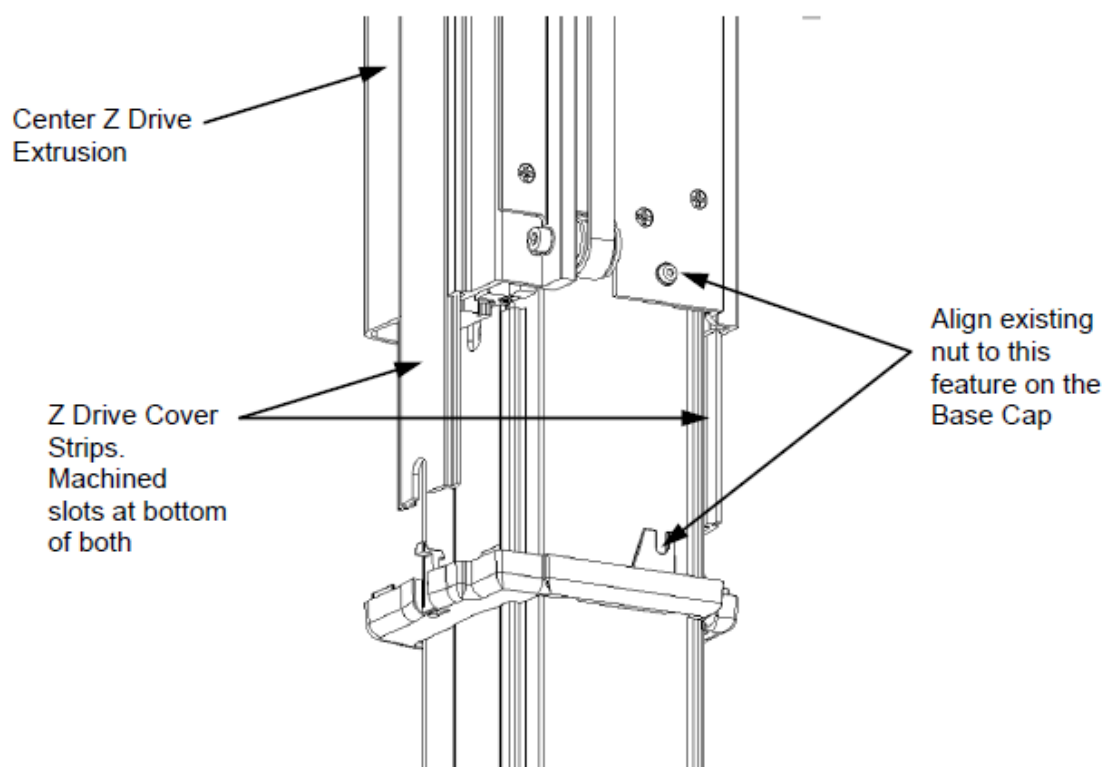

Figure Z-4: Center Z Extrusion
5. Remove the two Transport Arm Z Cover Strips from the Center Z Extrusion (Figure Z-4).